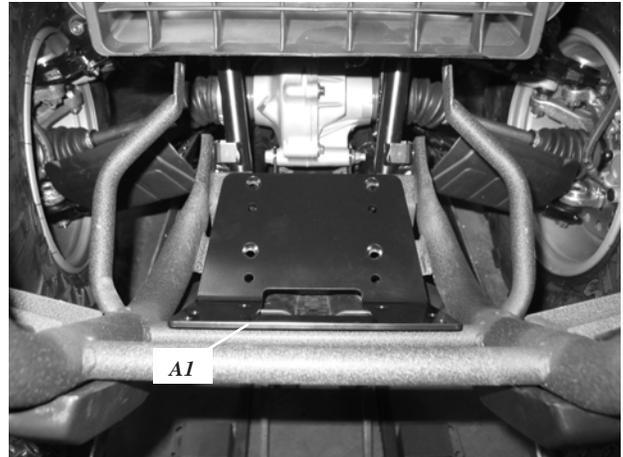

Figure 7: Place winch mounting bracket
7. Place winch mounting bracket (A1) on top of mounting tabs. See figure 7.